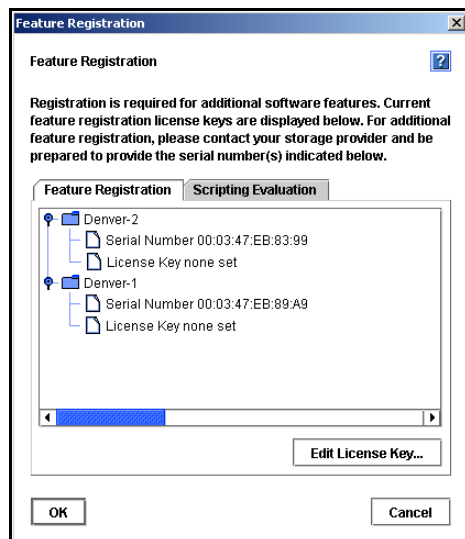

Figure 219. Opening the Feature Registration Window
3. From the Tasks menu, select Feature Registration. The Feature Registration window opens, shown in Figure 219. Listed are all the SSMs in that management group.